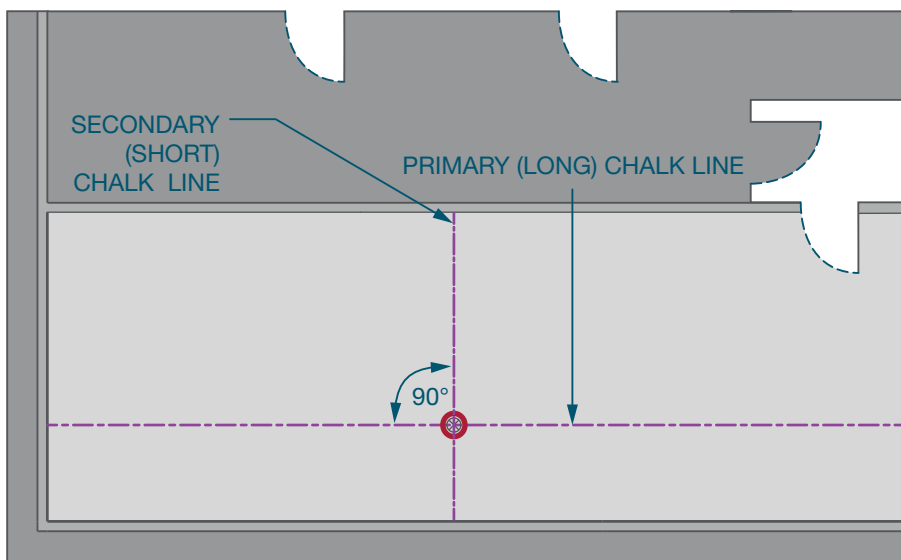

Figure 4
- 03** Create a second chalk line through the starting point perpendicular to the first chalk line. This chalk line must be both perpendicular to the first chalk line to control the floor grid and have a line of sight (see Figure 4). Use a laser level that can produce 90° lines to ensure a right angle where the two lines intersect.